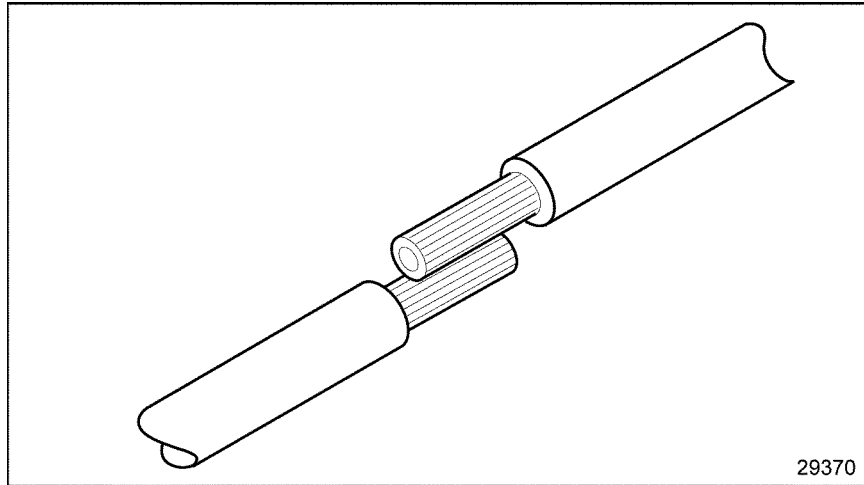

Figure 2-14 **Positioning the Leads**
1. Position the leads, so one overlaps the other. See Figure 2-14.